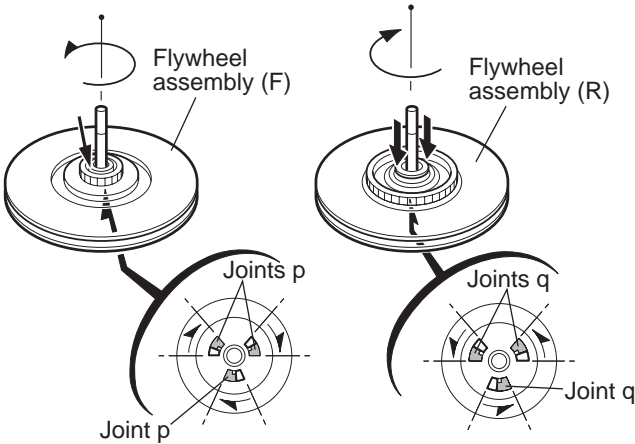

Fig.19
**3.2.10 Disassembling the flywheel assembly (F)**
**(See Fig.19 and 20)**
- (1) Push and turn counterclockwise the spring holder (F) to release the three joints p on the bottom of the flywheel.
- (2) The spring holder (F), the TU spring and the friction gear play come off.
- (3) Remove the polywasher and felt.
**3.2.11 Disassembling the flywheel assembly (R)**
- (1) Push and turn clockwise the spring holder (R) to release the three joints q on the bottom of the flywheel.
- (2) The spring holder (R), the FF spring and the friction gear FF come off.
- (3) Remove the polywasher and the felt.